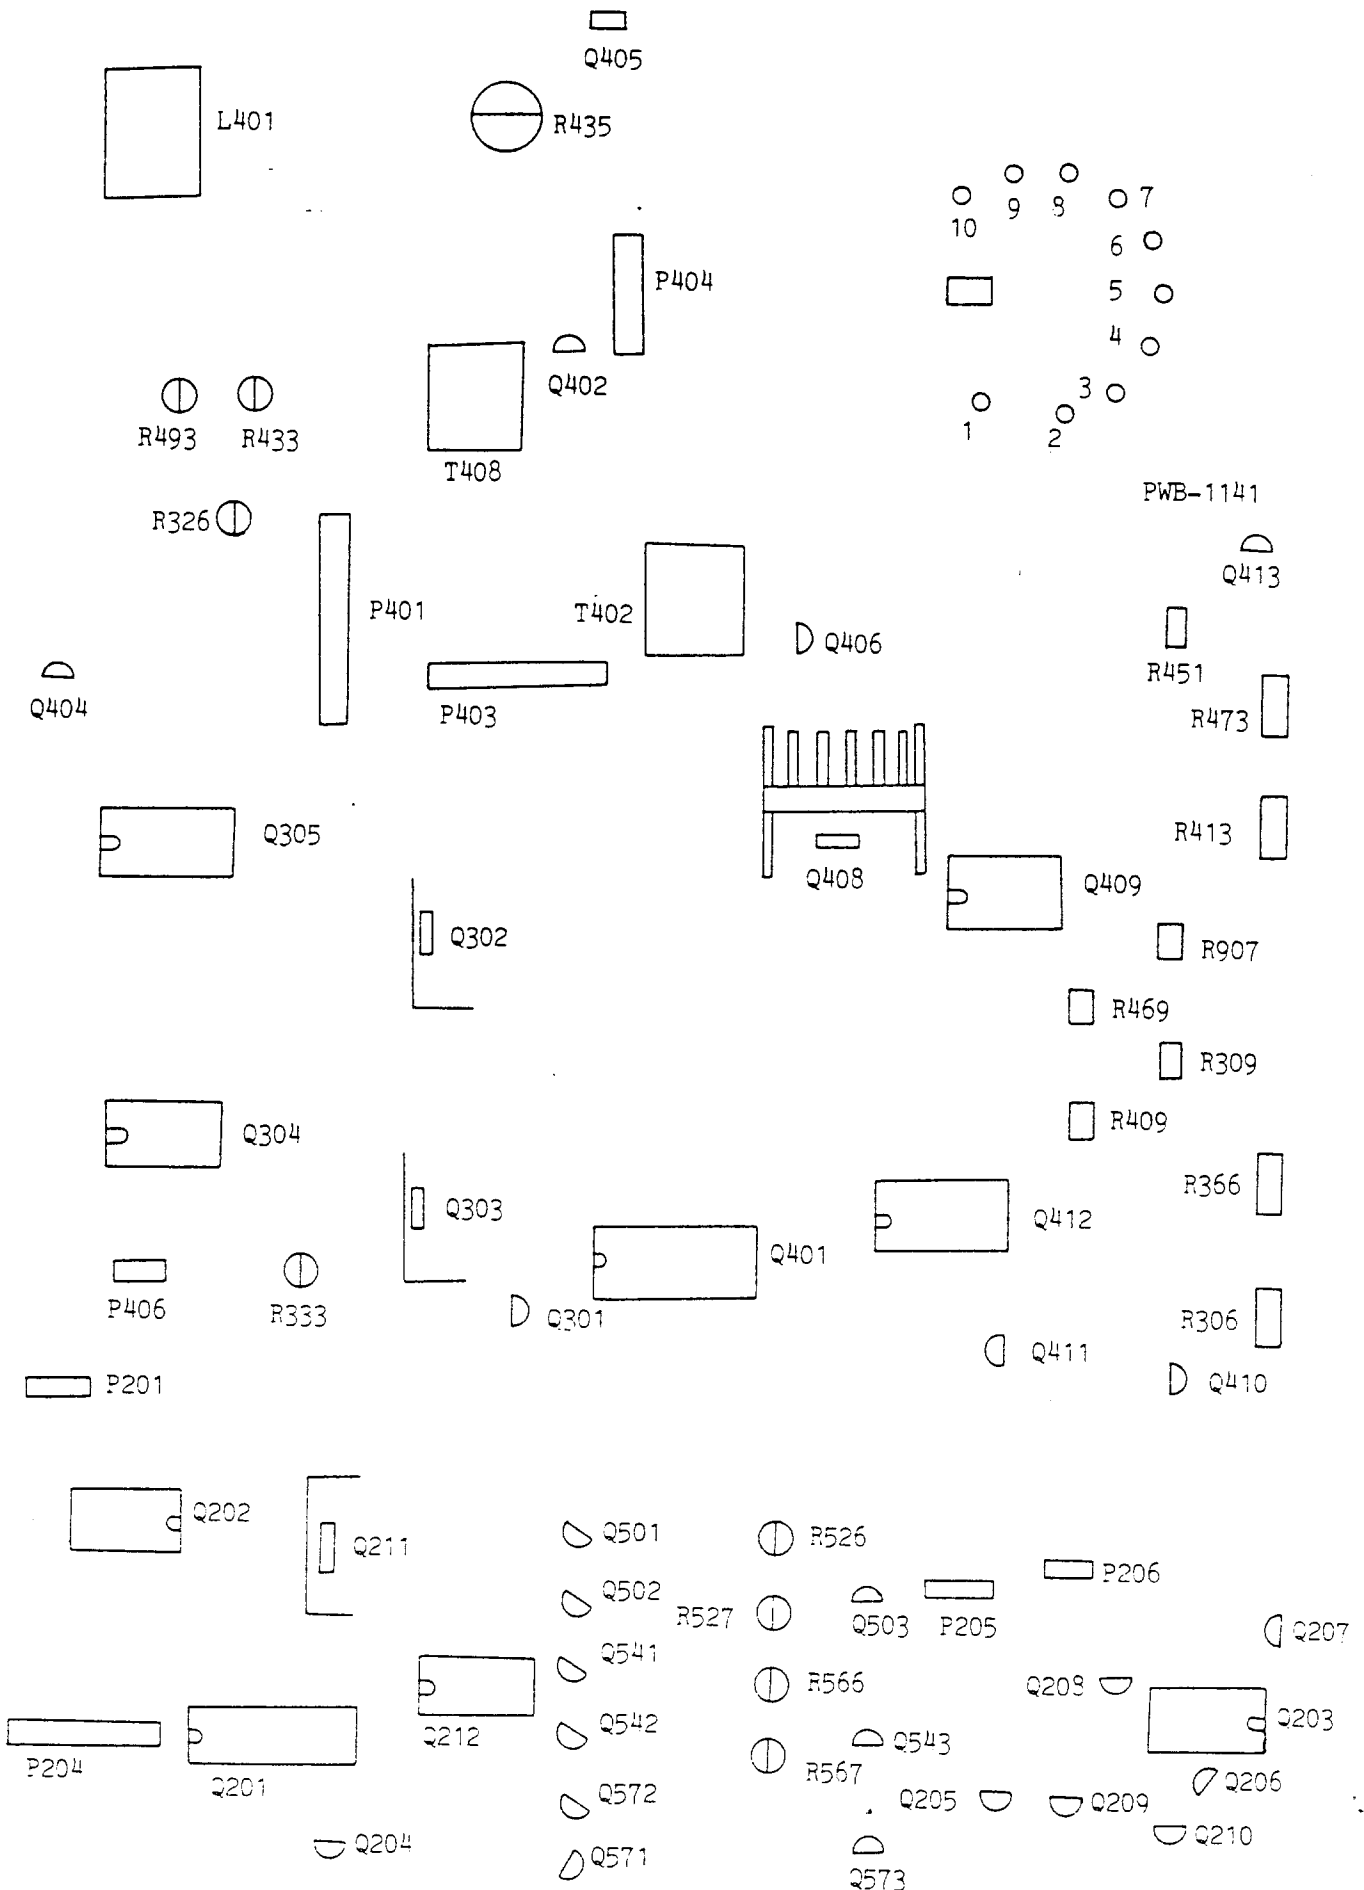

Fig 4-5
1. PCB-MAIN adjustment and test location. (See Fig 4-5)